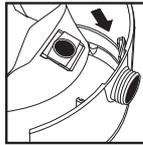

FIGURE 33
39. Slide the inlet deflector with the filter bag attached into the deflector guide. **FIGURE 33.**